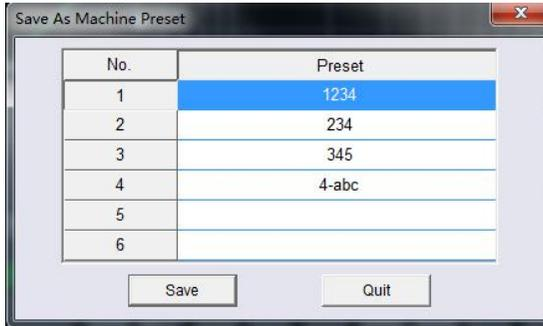

Figure 3.4.5
**Step2:** Click "Load machine preset " item will pop up after loading machine preset scene window dialog box (Figure 3.4.5).
**Step3:** as dialog box of figure 3.4.5 , select the machine where the user wants to load a preset number (as selected on the 3rd), and then point below the "Load" button on the pop-up shown 3.4.6 loading data transfer progress shown in the wait window.